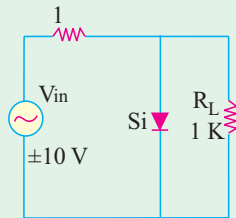

Fig. 52.52
4. Sketch the voltage across  $R_L$  in the clipper circuit of Fig. 52.52.